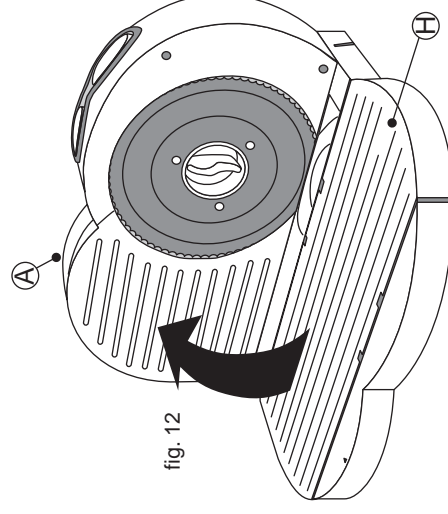

fig. 12
- Remove the Protective Guide (L) and Food Tray (K), Fold up the Platform (H) against the Main Body. Wrap up the Cord (J) and store it under the Food Slicer. The Food Slicer should be stored in a location that is out of reach of children in a clean dry environment. See fig. 12.